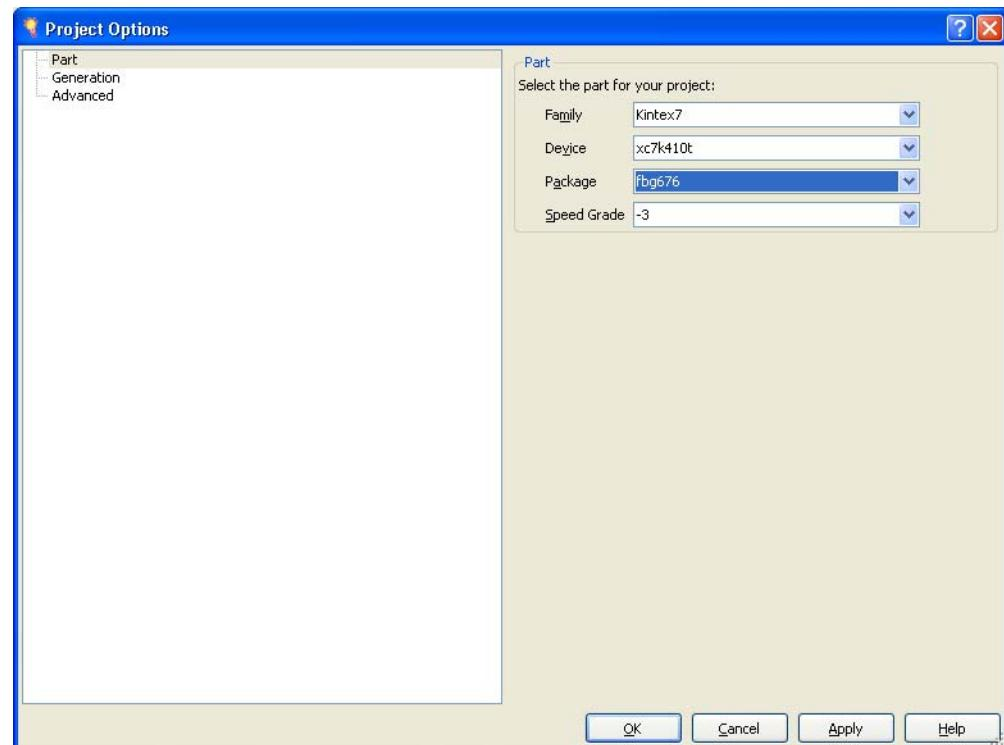

Figure 3-4: CORE Generator Tool Device Selection Page
4. Select these project options for the part (Figure 3-4):